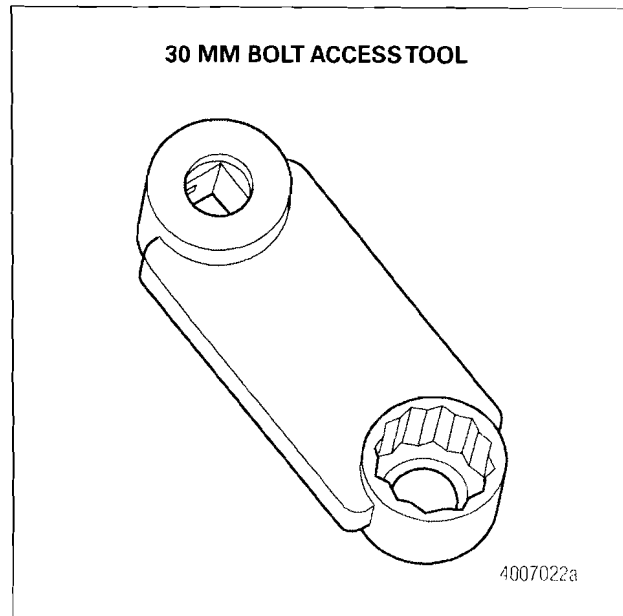

Figure 1
- 30 mm Bolt Access Tool — Available through ArvinMeritor. Figure 1.
10. Using the 30 mm bolt access tool (Figure 1), remove the carrier bolts and washers.